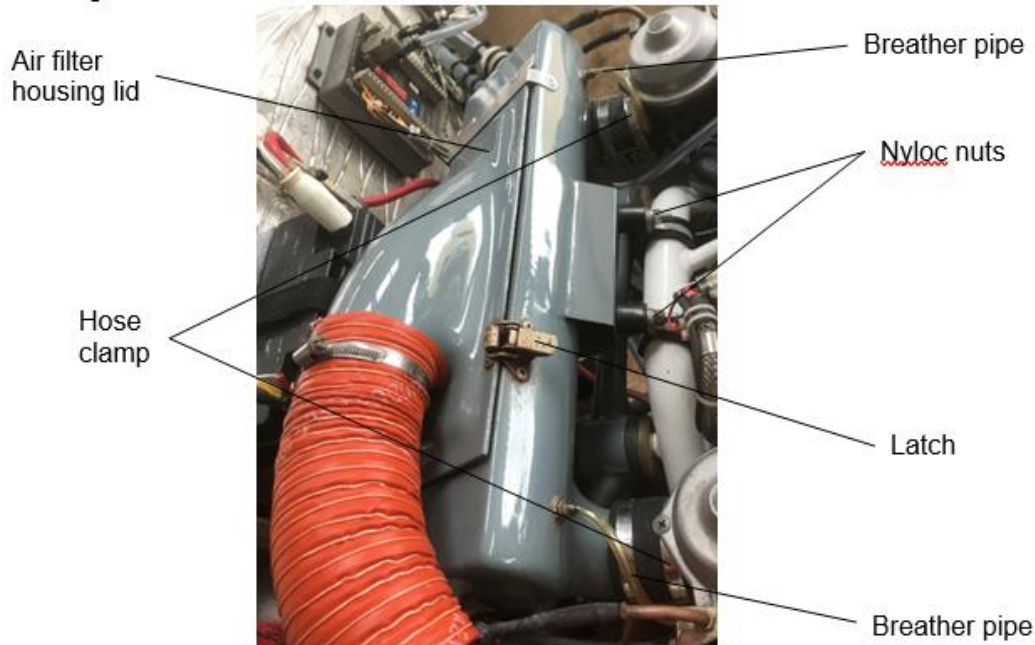
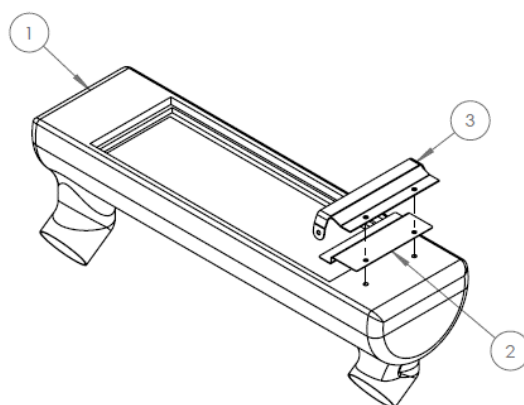

Figure 1: Removal of air filter housing
Figure 3: Air filter brackets
2. Remove the air filter housing from the engine by removing the clear breather pipes from the carburettor, the M6 nyloc nuts at the rubber mounts and loosening the 40 – 60 mm hose clamps as shown in Figure 1.
5. Fit the new bracket (FF-BKT-024-C-A-0) under the existing airbox bracket as shown in Figure 3.
6. Secure both brackets by replacing the four (4) drilled out rivets with 4 x 10 mm aluminium sealed rivets.
8. To refit the air filter housing on the engine, replace with new M6 nyloc nuts, tighten the hose clamps and fit the clear breather pipes as indicated in Figure 1. The air filter housing lid may be secured with the latches once the new air filter is installed.